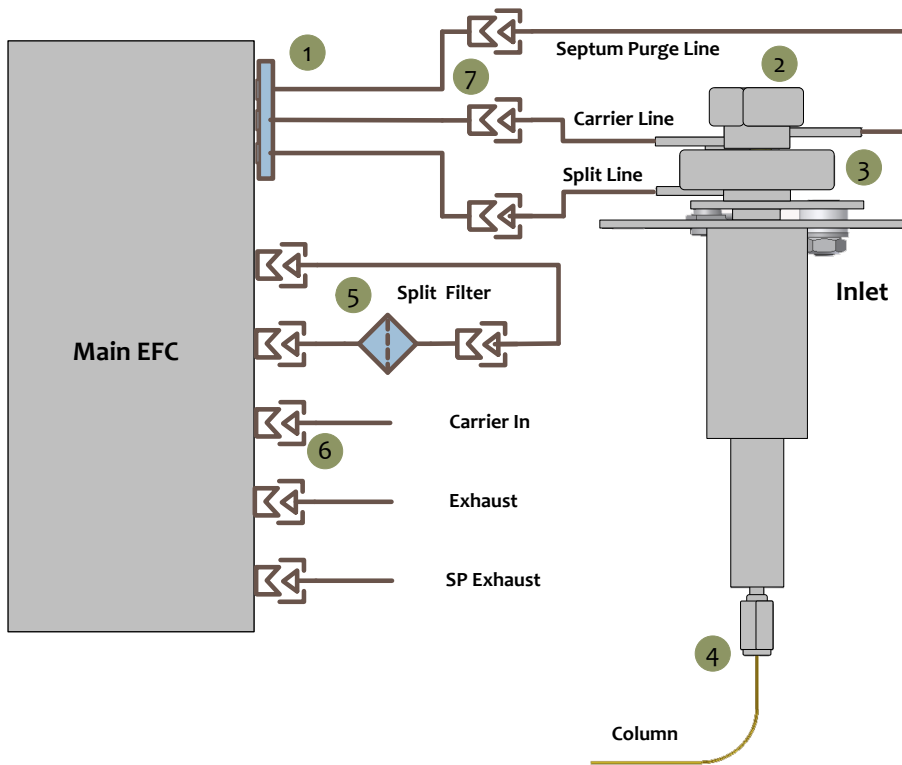

Figure 1 Critical Connections for Leak Checking
10. While the inlet port is under pressure, check for a leak with a leak detector. The most critical connections to be checked are shown in the Fig. 1 below.